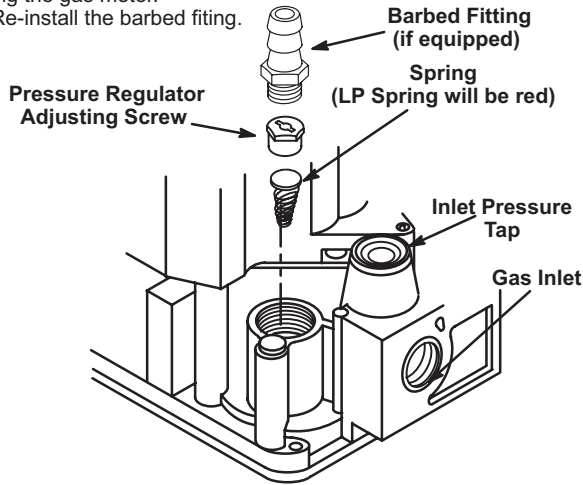

FIGURE 5
- 6 - Replace the gas valve regulator spring with the provided regulator spring. See figure 5.